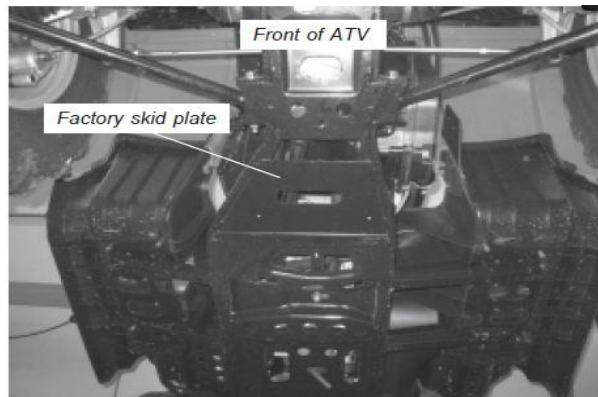
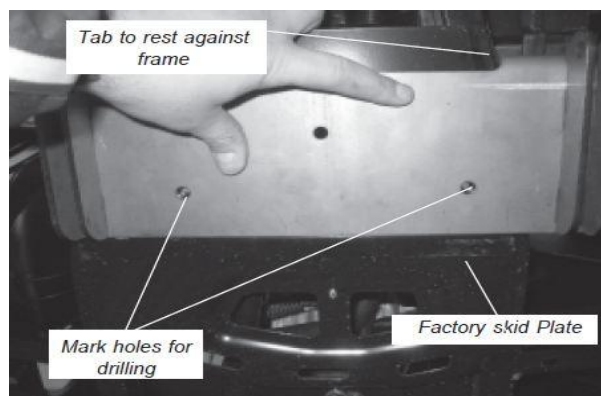

Figure 1
Figure 2
1. Locate the factory skid plate under the ATV (Figure 1).
2. Place the plow mounting bracket (A1) so that the rear of the bracket rests on the “lip” of the factory skid plate. (Figure 1 and Figure 2)
3. Next, slide the plow mounting plate (A1) to the left so that the right tab rests against the frame. Mark the holes for drilling. (Figure 2)